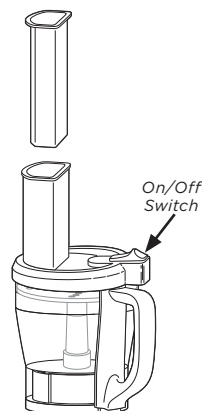

Fig. 10
- 7 Place food into the feeder tube. Using the food pusher, add food through the feeder tube. Push the on/off switch forward to the "On" position. (Fig. 10)